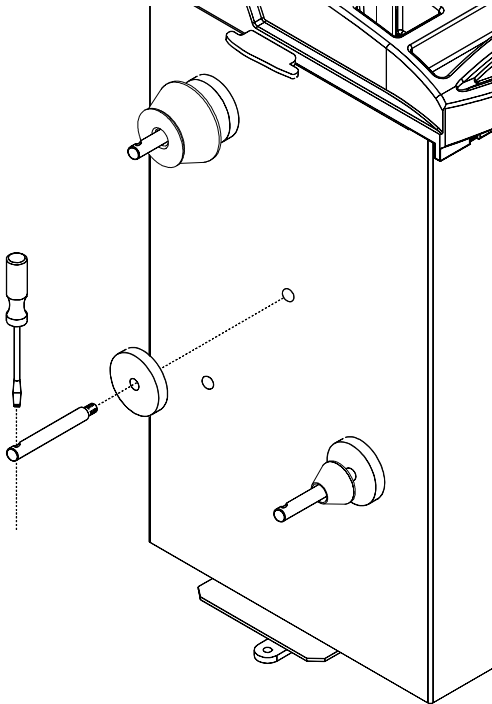

Figure 6
**B.** Install the accessory pins (Fig.6). Tighten firmly.